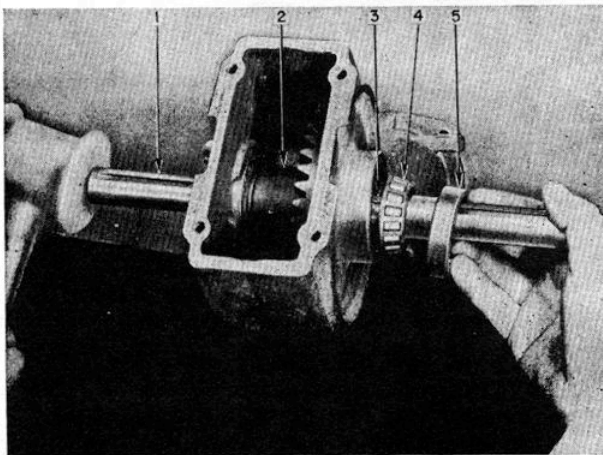

FIG. 44—REMOVING TILLER DRIVE SHAFT
- e. Using a soft hammer, tap drive shaft from left to right side; right bearing will come out with shaft. (See figure 44.)